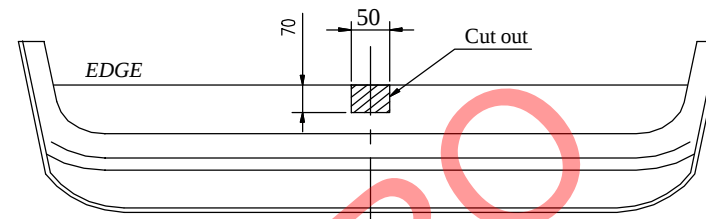

Fig. 2
2. In bottom part of the bumper cut out the hole as show in the fig. 2
4. Put bar of the towbar (pos. 1) into the chassis member and fix with bolts M10x30mm (pos. 7), use big washers $\varnothing 35 \times \varnothing 12 \times 3 \text{ mm}$ (pos. 11).
5. Put brackets (pos. 4 and 5) to the rear piece and fix it through holes pos. A to the bar of towbar using bolts M8x30mm (pos. 8), use big washers $\varnothing 25 \times \varnothing 9 \times 2 \text{ mm}$ (pos. 12).
6. Through holes (pos. B) in brackets (pos. 4 and 5) fix nuts M8 with big washers $\varnothing 25 \times \varnothing 9 \times 2 \text{ mm}$. Take care at the torque moment - **10 Nm**.
7. Through holes (pos. C) in brackets (pos. 4 and 5) make holes with drill $\varnothing 9 \text{ mm}$, and next fix with bolts M8x30mm (pos. 8).
8. Fix tow-ball (pos. 2) and socket plate (pos. 3) by bolts M12x75mm (pos. 6) from accessories.